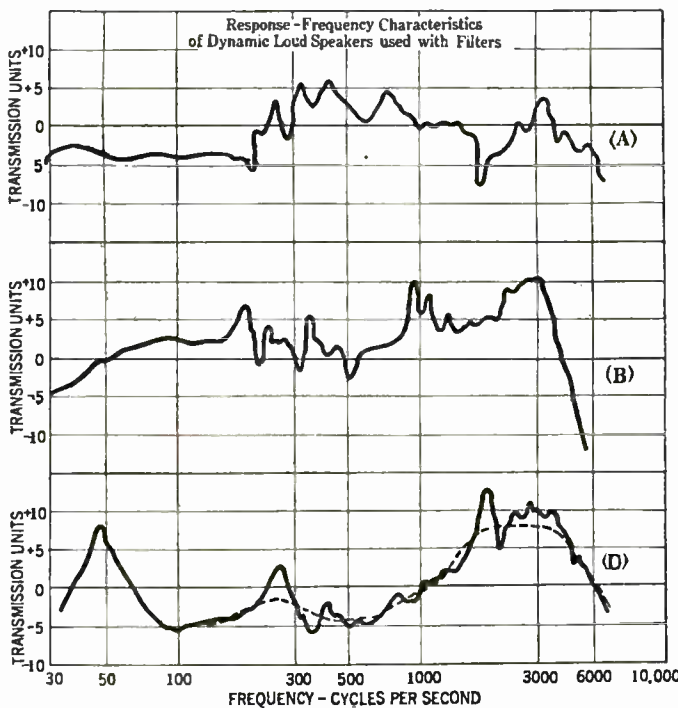
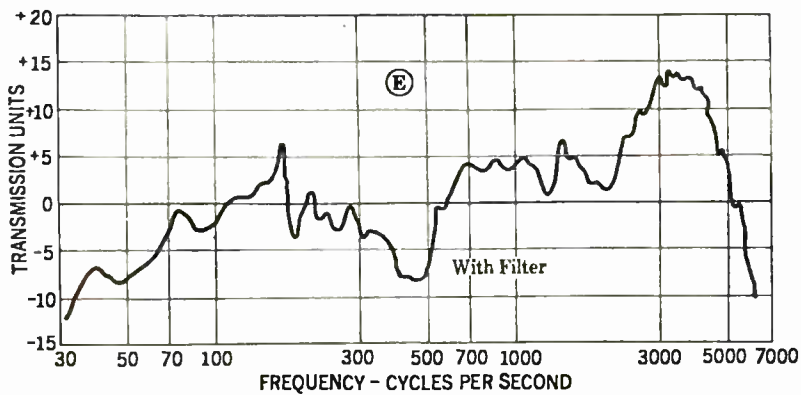

FIG. 2
FIG. 3
C. It will be noted that A and B have markedly increased response at the higher frequencies, while C has not. In Fig. 2 are shown these same loud speakers, A and B, when the filters are used. The response of a fourth loud speaker, D, is also given. The frequency-response characteristics of two other dynamic loud speakers are shown in Figs. 3 and 4.
[In analyzing these response curves the many small irregularities can be neglected, since, in general, they will not be audible to the ear. A good idea of what we might term the "average" response curve of the loud speaker can be obtained by drawing a smooth curve as we have indicated in dotted lines on curve D of Fig. 2. Note that the curves are plotted in τ . With pure single-frequency tones the minimum change in response audible to the average ear is 2 τ , but